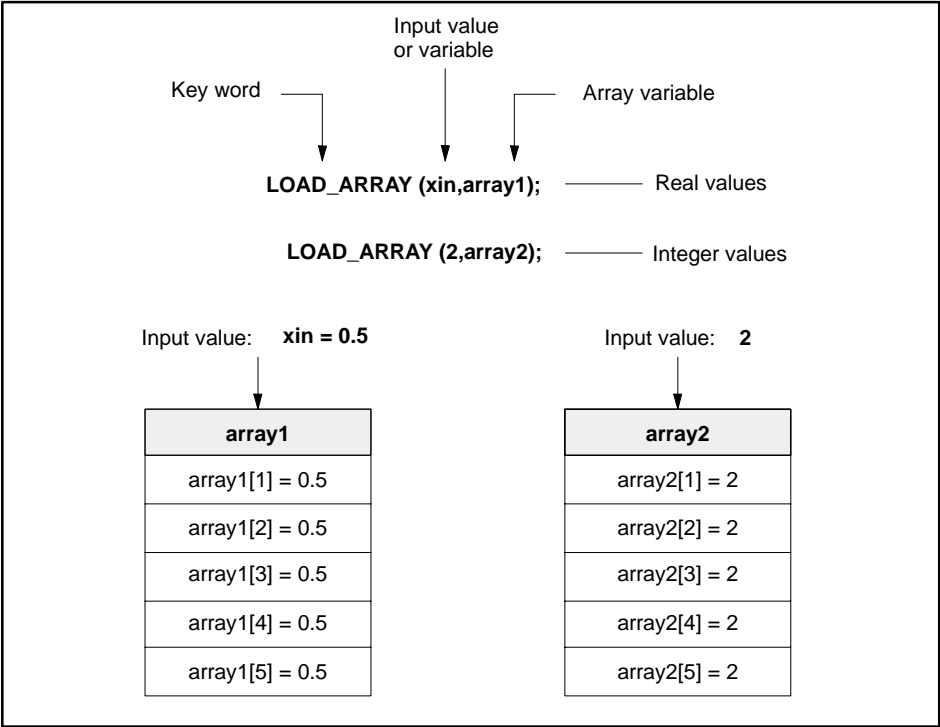

Figure 11-31 LOAD_ARRAY Procedure
- The LOAD_ARRAY procedure assigns the value of the input variable to each element in the array. See the examples in Figure 11-31.
Figure 11-31 shows how the LOAD_ARRAY procedure works.